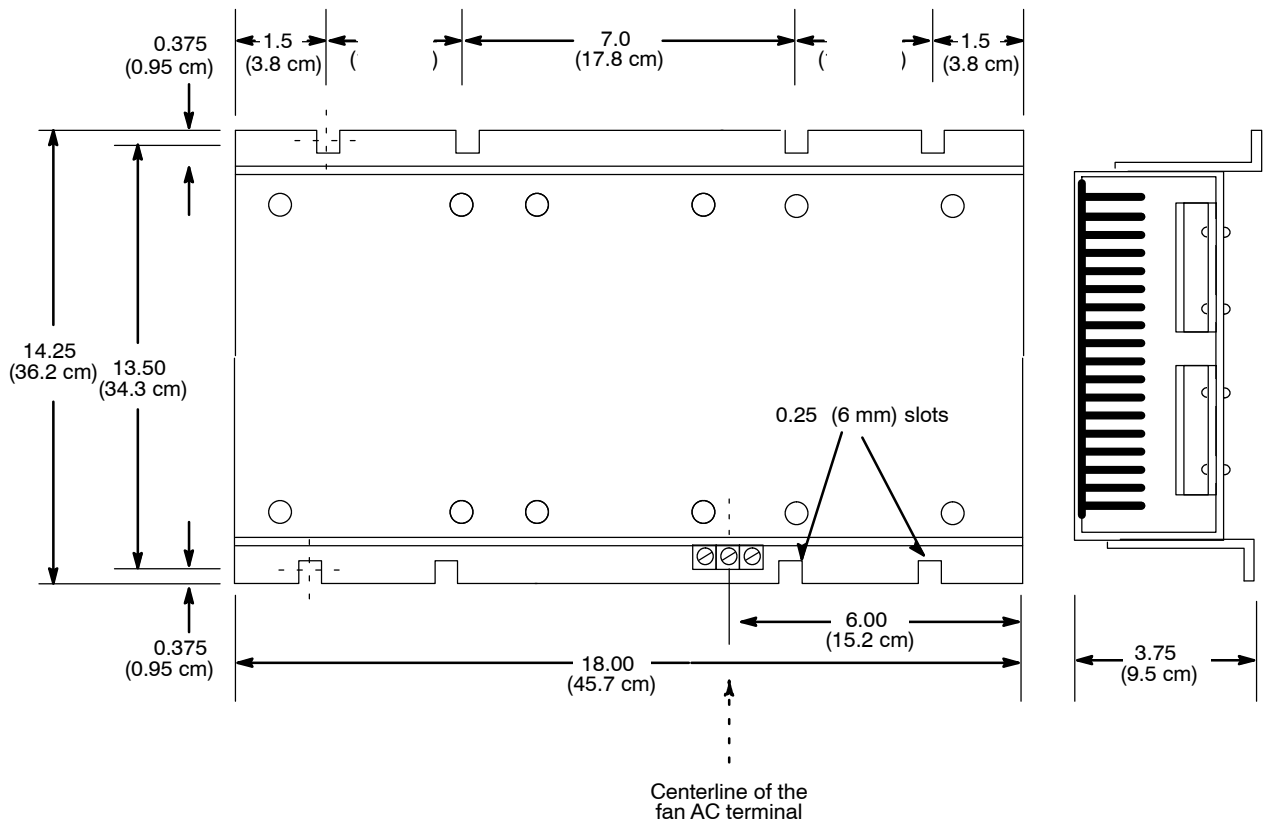
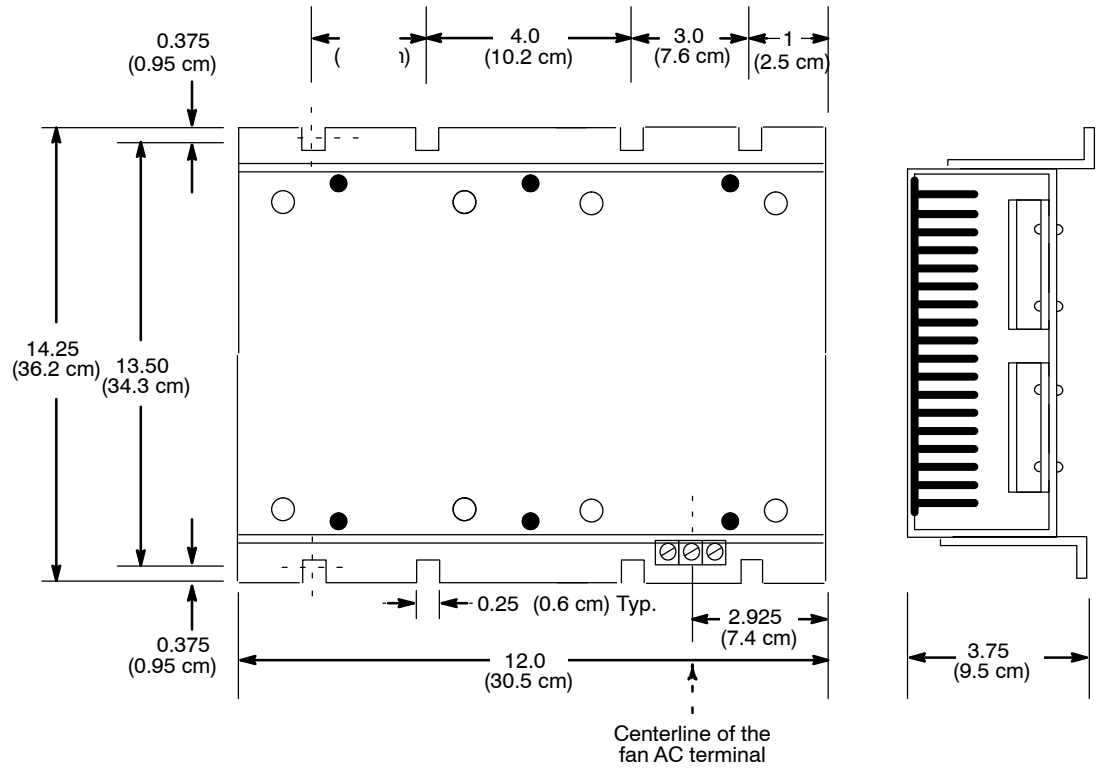

Figure 10 CPM Three-Position Mounting Plate Mounting Dimensions
Figure 11 CPM Two-Position Mounting Plate Mounting Dimensions
1. Spot and drill eight mounting holes for the #10 or 1/4-20 mounting hardware on the subpanel of the cabinet. Figure 10 provides mounting dimensions for the three-position mounting plate. Figure 11 provides mounting dimensions for the two-position mounting plate.